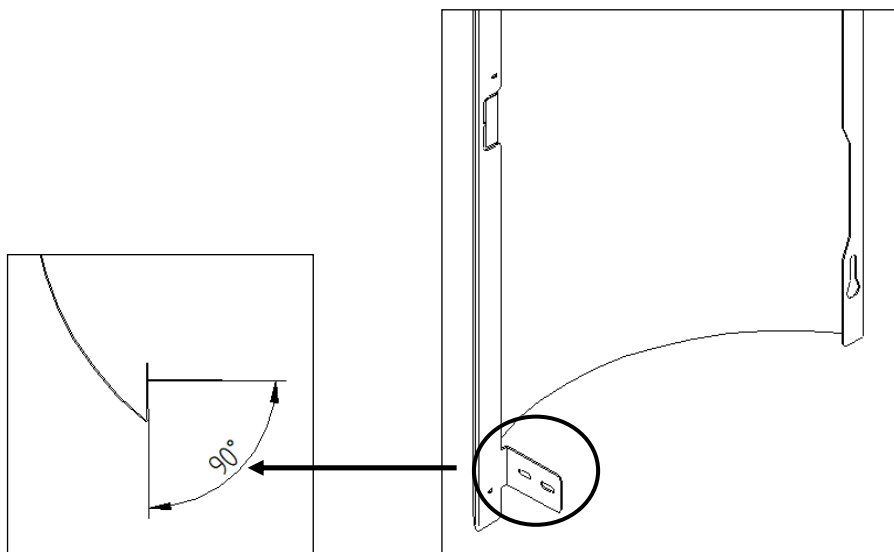

Figure 39 - Tab angle
e) To fit the side covers, first bend the tab as shown in figure 39 to ensure that it is at an angle of less than 90°.